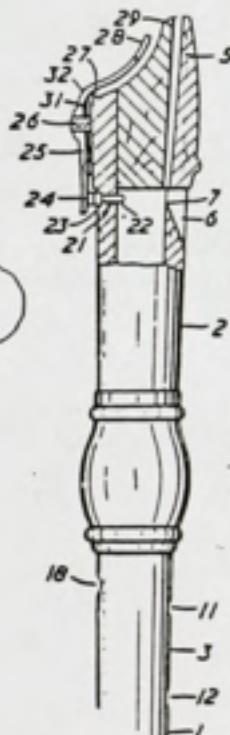

Fig 3
**Echo Key** - invented by Carl F Dolmetsch - patent number GB 852135. In spite of what un-informed critics say, the recorder does possess dynamic possibilities and can play its own *forte* and *piano* using a variety of techniques. Not as obviously for example as can the clarinet and trombone, being altogether a more miniature instrument. The Echo Key [fig 3] adds to the dynamic possibilities of the recorder, operating on the principle that by drilling a small hole near the blockline, the pitch of all notes is raised a little. [It is one of the tuning techniques traditionally used by bamboo pipe makers who, finding the instrument's overall pitch a little flat, drill such a hole and leave it permanently open.] The Echo Key, also dating from 1958, offers a choice. Leave it closed and play normally, or open it and all notes become a little sharper. Correct this sharpness by using less breath to lower the pitch, and this will, at the same time, produce softer sounding notes. QED! It is possible, where appropriate, to play the louder high notes quite softly, making for more musical performances. An *mf* phrase can be convincingly repeated *pp* using the Echo Key. It is operated by the chin and not by fingers or thumbs, many of which already have enough tasks to keep them